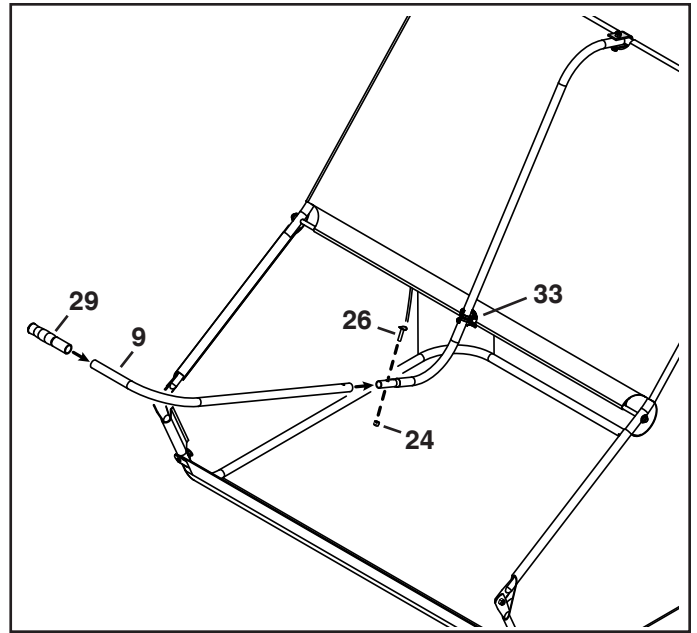

FIGURE 17
28. Slide the handle grip (29) onto the end of the handle tube (9) as shown in figure 17.
29. Assemble the handle tube (9) to the dump tube (5) and secure in place with a 1/4" x 1" curved head bolt (26) and 1/4" nylock nut (24). See figure 17.
30. Snap the dump handle clip (33) onto the pivot rod.